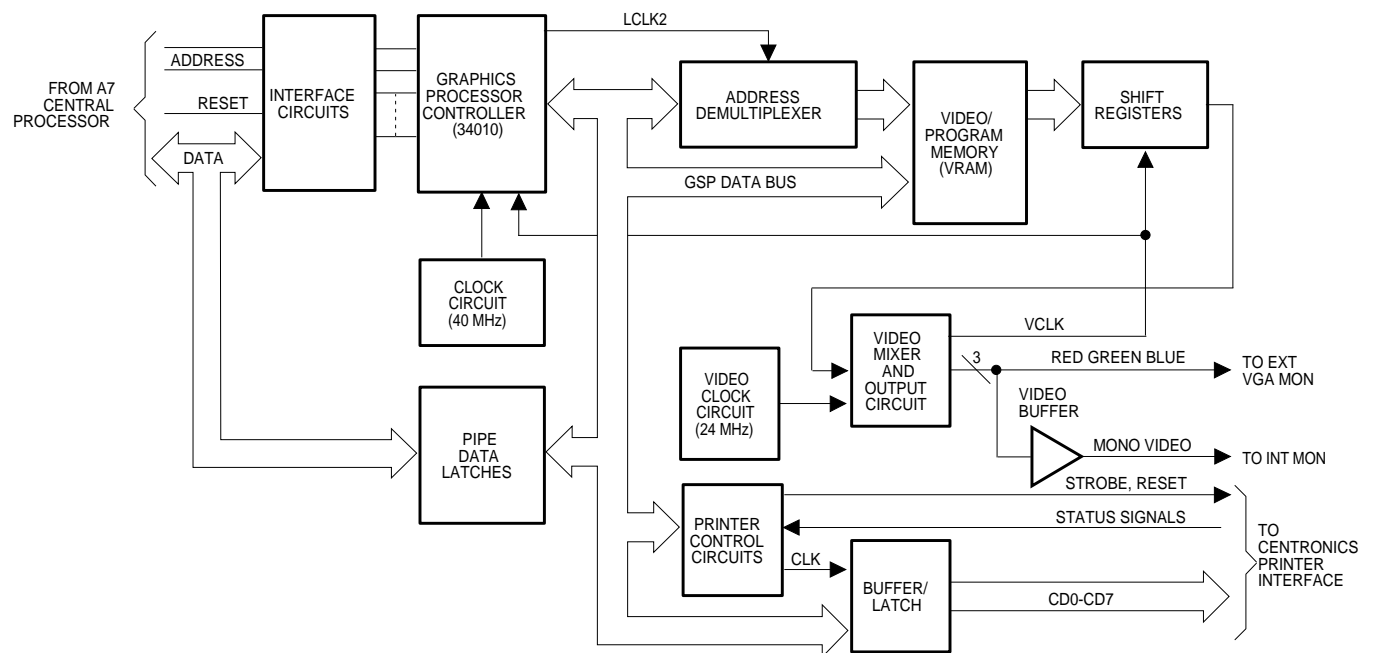

Figure 4-3. Block Diagram of A8 Graphics System Processor PCB
The Graphic System Processor (GSP) circuits are located on the A8 PCB (Figure 4-3). These circuits comprise an intelligent subsystem that is loosely controlled by the A7 PCB Central Processor. It produces the video signals for the internal CRT monitor screen display and for the external VGA monitor interface. It also produces the data and control signals for the Centronics printer interface. There are no adjustments on this PCB.
- Graphics controller chip (34010) — this controller interprets the commands from the A7 PCB Central Processor and produces appropriate command signals and data streams that produce the desired CRT monitor display or printer output. The GSP controller communicates with the GSP memory, video output circuits and printer interface circuits via the internal GSP Data Bus (Figure 4-3).
- Data “Pipe” — two latches form a data pipe that allows direct communication from the A7 central processor to/from the GSP processor via the GSP Data Bus (Figure 4-3).
The GSP control program causes the GSP controller to wait for instructions and data that are sent to it from the central processor via the pipe interface (Figure 4-3). The commands used by the central processor to control the GSP are high level commands such as draw line and write text. The GSP controller translates these commands into primitive instructions which it can directly execute. It then performs the necessary sub-tasks to produce the desired results.
The GSP processor sends formatted printer output data and control signals to the printer interface circuits via the GSP data bus. The printer interface controller chip provides the data strobe that clocks the output data from the GSP bus into the data buffer/latch (Figure 4-3). It also provides the LSTB (strobe) and PRINTER RESET signals to the printer. Along with associated data latch circuits, it receives the printer status signals and sends them to the GSP controller via the GSP bus.